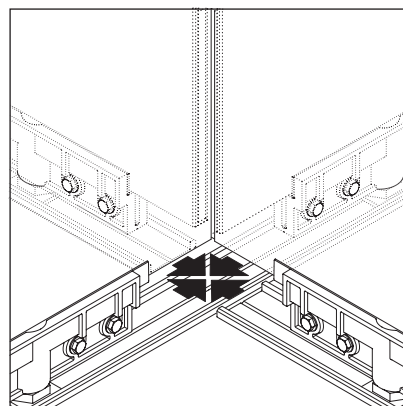

Figure 6 - Fit Panels
8. Install the ceiling and base trim (see "Inside Corner Trim - Ceiling" and "Inside Corner Trim - Floor" instructions on page 33) (Figure 6).